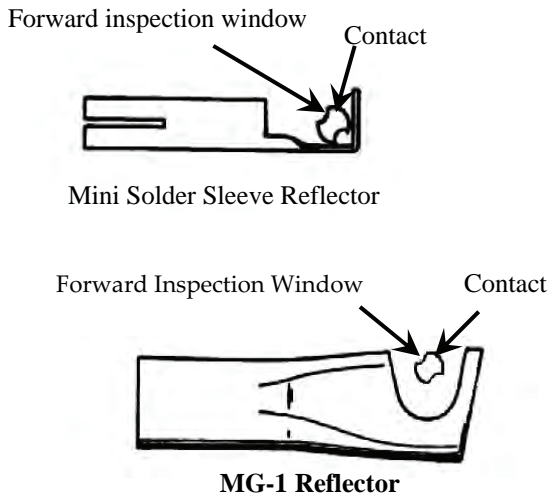

Figure 10. Contact Position in Heat Gun Reflector
- 1). Using the holding fixture, position the contact in the heating tool reflector as shown in Figure 10, with the forward inspection window centered in the reflector